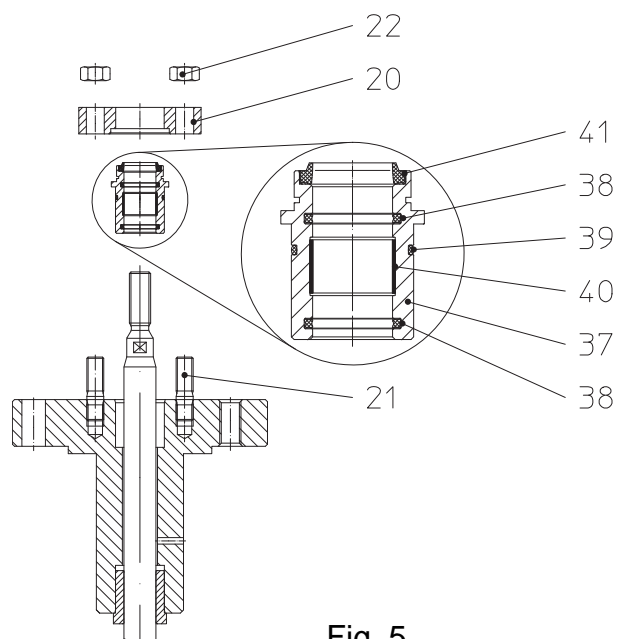

Fig. 5
- When replacing the sealings (pos. 38, 39), make sure that the parts are installed in the correct order and positions (refer to Fig. 5).